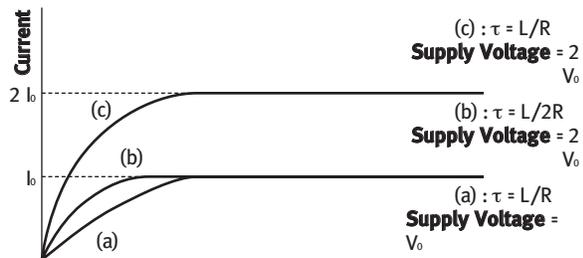

Fig. 8-2
A step motor operated at a fixed voltage has a decreasing torque curve as the frequency or step rate increases. This is due to the rise time of the motor winding which limits the value of the coil current. This is determined by the ratio of inductance to resistance ( $L/R$ ) of the motor and driver as illustrated in Fig 8-2 (a).
- a) Increase the supply voltage and add a series resistor, Fig 8-2 (b), to maintain rated motor current and reduce the  $L/R$  of the circuit.
- b) Increase the supply voltage, Fig 8-2 (c), improving the time constant ( $L/R$ ) of the circuit. However, it is necessary to limit the motor current with a bi-level or chopped supply voltage.